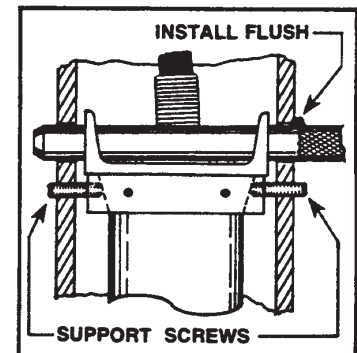

FIG. 5
5. Install the six ram support screws, see FIG. 5.
**IMPORTANT:** After installing the bolster pins, adjust the support screws (FIG. 5) evenly until the ram assembly is centered. The ram assembly must be positioned so the bolster pins can be easily installed. Repeat this procedure for the two additional ram positions.
8. Adjust the set screws to the proper depth. See FIG. 5.
Once the ram is in the desired position, secure in place using both bolster pins. (See FIG. 5).
**WARNING:** Both bolster pins must be inserted until their stops are flush against the tube wall. (See FIG. 5.)